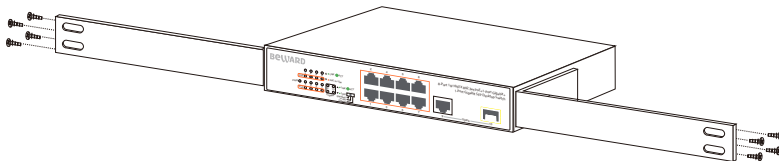

Figure 3-2: Attaching the Brackets to the ST-811HP.
Step 2: Attach a rack-mount bracket to each side of the ST-811HP with supplied screws attached to the package. Figure 3-2 shows how to attach brackets to one side of the ST-811HP.